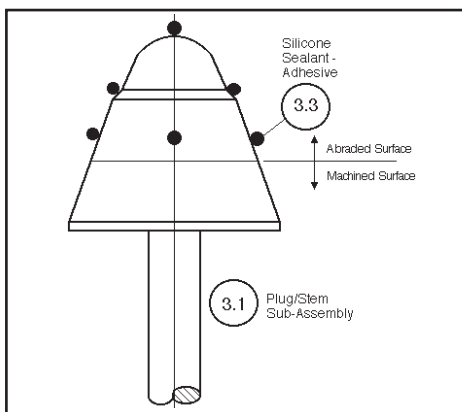

Figure 3: Adhesive Placement
6. Clean body (1) similar to plug/stem (3.1) of Step 4. above. Place body (1) back into vise.
8. Open the small container of silicone sealant/adhesive (3.3). Place seven “dabs” of adhesive (3.3) on the plug head-end (3.1) at the locations indicated in Figure 3. **DO NOT ATTEMPT TO SPREAD THE DABS.** Place a new diaphragm (3.2) over the plug head-end (3.1). Press down on the tip of the diaphragm (3.2) to spread the silicone sealant (3.3). Twist the diaphragm (3.2) back and forth several times while ensuring at least one complete revolution of the diaphragm (3.2) occurs. Starting at the tip of the diaphragm (3.2), press the diaphragm (3.2) against the plug head-end (3.1) to remove any air pockets.